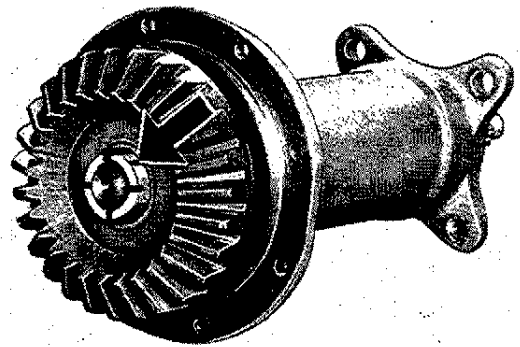

Fig. 19-Removing Nut
2. Use a hammer and punch to remove the notched nut (Fig. 19). Strike the punch sharply to loosen the nut. If necessary, clamp the gear in a vise, being careful not to damage the gear teeth.